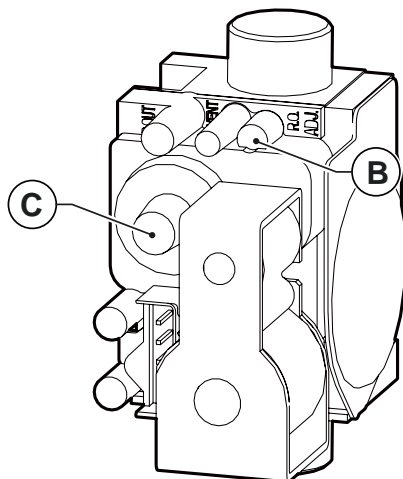

Fig. 45 Adjusting CO₂ value
- Set flue gas CO₂ content by turning the ratio adjuster **B** (see Fig. 45 Adjusting CO₂ value) and ensure that reading falls within the limits of Tab. 24 Flue CO₂ content. Let boiler flue cleaning function on and continue with the next point "Minimum heating output adjustment" .
- Set flue gas CO₂ content by turning the offset control **C** (see Fig. 45 Adjusting CO₂ value) and ensure that reading falls within the limits of Tab. 24 Flue CO₂ content.